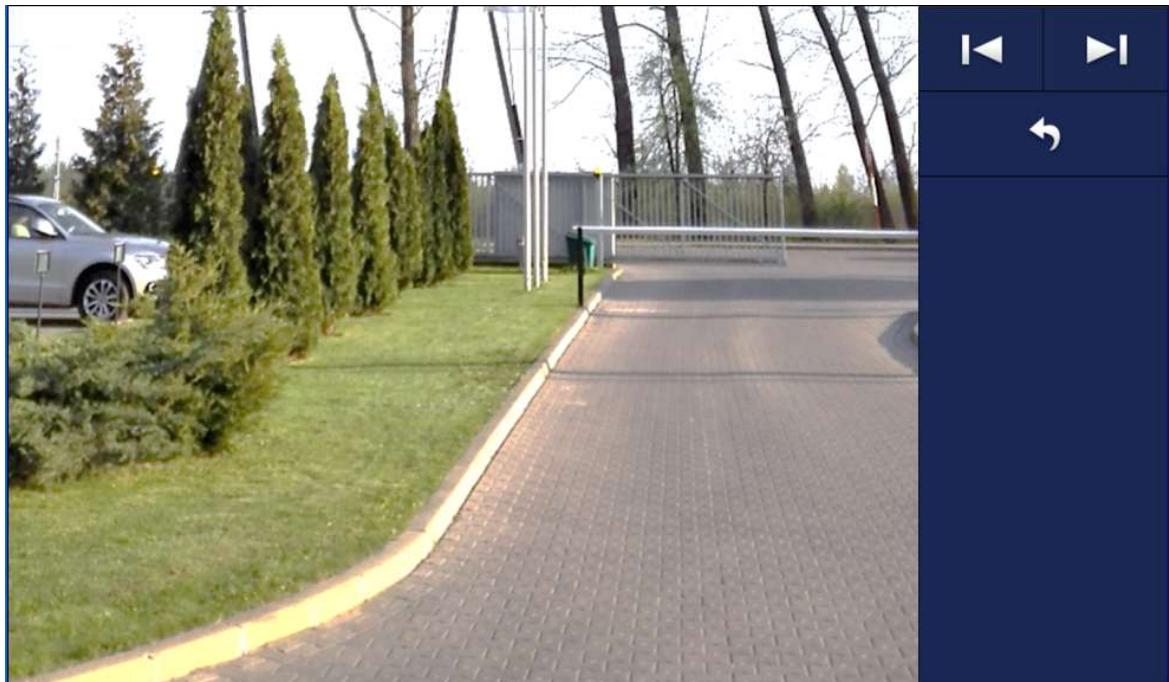

Figure 5-19
Step 3. Press . See Figure 5-19.